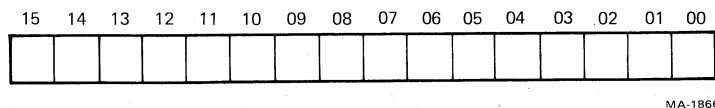

Figure 4-20 RXDB Format (RX11/RXV11)
4.2.2.5 RXDB - RX Data Buffer (Figure 4-20) - All information transferred to and from the floppy media passes through this register and is addressable only under the protocol of the function in progress (Paragraph 4.2.3).